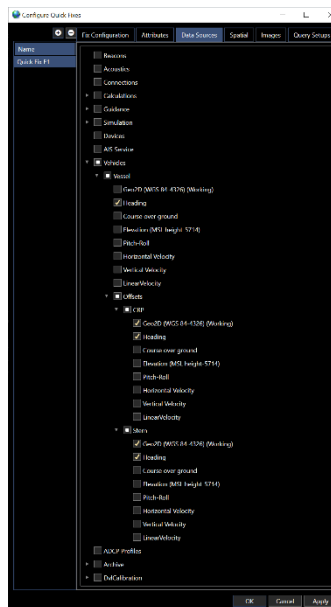

FIGURE 14-31 QUICK FIXES - CONFIGURE QUICK FIXES – DATA SOURCES
**Note:** Only items selected in the Data Source tab will be available for Query Setups. See Figure 14-31